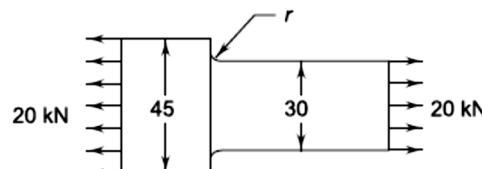

Figure 1
- iii. A plate, as shown in figure 1 is subjected to a tensile load of 20 kN.